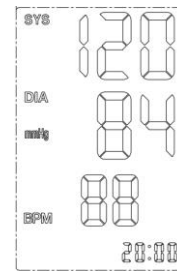

Fig 13
- 5) When completing the test, the cuff will automatically deflate and the test result will display on the screen as shown on fig 13.